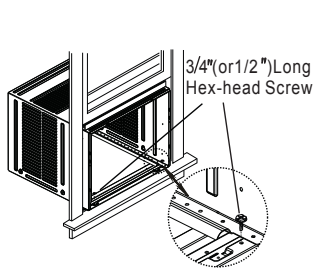

Fig.13
4. For wooden window: Fasten cabinet to window inner sill with two screws into holes (Fig. 13) (You may wish to pre-drill pilot holes).